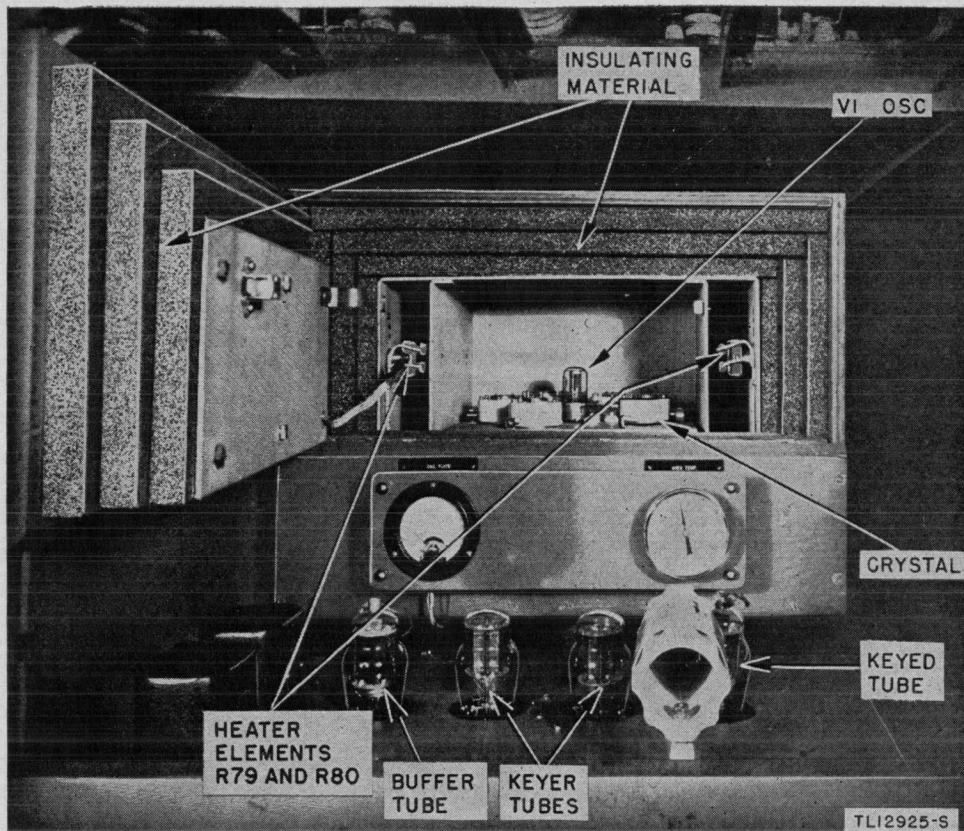

Figure 4. Crystal oven, door open.
a. **CRYSTAL-CONTROLLED OSCILLATOR.** The oscillator unit is contained in an electrically heated, insulated oven. (See fig. 4.) Access may be gained to it by opening the upper left-hand door of this unit. Receptacles for holding six different crystals are provided in the oven. A six-position **FREQUENCY SELECTOR** switch, located on the front of the transmitter, makes it possible for the operator to select any one of the six crystals. In addition, for emergency operation when crystals are not available, a plug-in master oscillator assembly is provided. The operation of this unit is covered in section XI, paragraph 90.
b. **BUFFER AMPLIFIER, KEYED STAGE, AND KEYERS.** The buffer amplifier, keyed tube, and keyer tubes are combined on a single chassis directly in front of the oscillator oven. (See fig. 4.) Provision
Insert crystal holders in the sockets provided in the crystal oven. (See fig. 4.) The number stamped near each socket refers to a corresponding position of the FREQUENCY SELECTOR switch dial. All crystals are interchangeable to any of the six positions.